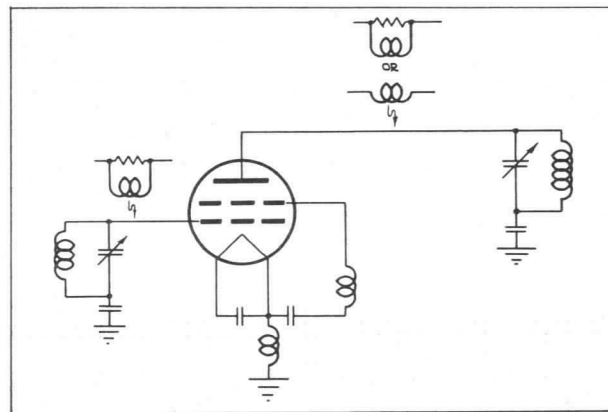

Fig. 24
1. By placing a small coil and resistor combination in the plate lead between the plate of the tube and the tank circuit. See Fig. 24. The resistor-coil combination is usually made up of a non-inductive resistor of about 50 to 100 ohms, shunted by 3 or 4 turns about $\frac{1}{2}$ " in diameter and frequently wound right around the resistor. In some cases it may be necessary to use such a suppressor in both the plate and grid leads. The resistor coil combination operates on the principle that the resistor loads the VHF circuit but is shunted by the coil for the lower fundamental frequency.
2. By the use of small parasitic chokes in the plate lead. See Fig. 24. The size of this coil will vary considerably depending upon the tube and the circuit layout, and may run from about 4 to 10 turns of about a $\frac{1}{2}$ " diameter. Apparently, the presence of this choke in the frequency determining part of the circuit lowers the frequency of a possible VHF parasitic so that it falls near the self neutralizing frequency of the tube and bypass leads. (See D-2-b "Analysis of Neutralizing Circuits.") In addition to varying the size of the suppressor choke, the amount of inductance common to the screen and filament in the filament grounding strap may be a factor. This can be varied simultaneously with the suppressor choke.